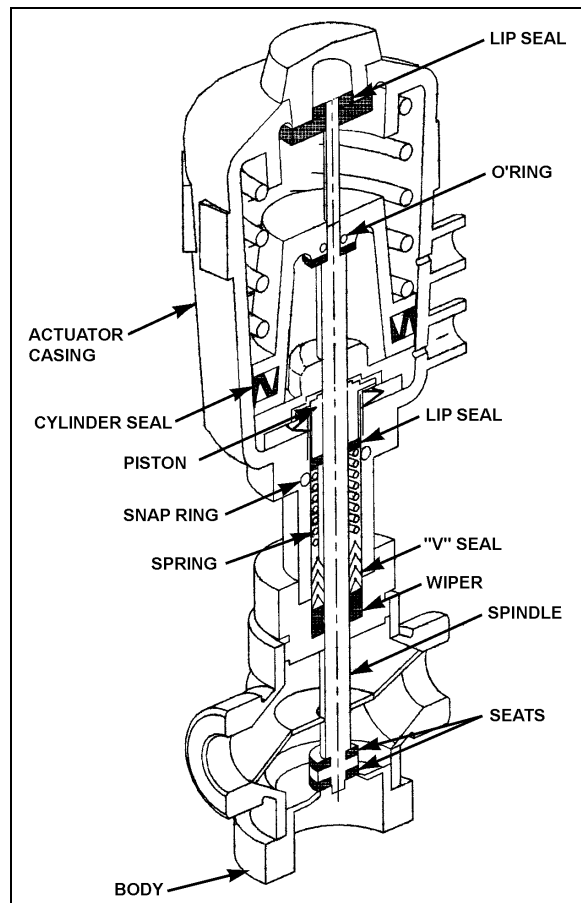

FIGURE 47: CENTRAL PNEUMATIC WATER VALVE 22330
2. The water valve need not be removed from the line. Unscrew nipple, the actuator casing, tube, spindle and closure member can be removed (Fig. 47).
2. Tighten the nipple in place in the body cavity as per figure 47. Fasten pilot solenoid valve to the pneumatic water valve. Reconnect air supply pressure and electrical current to the pilot solenoid valve.